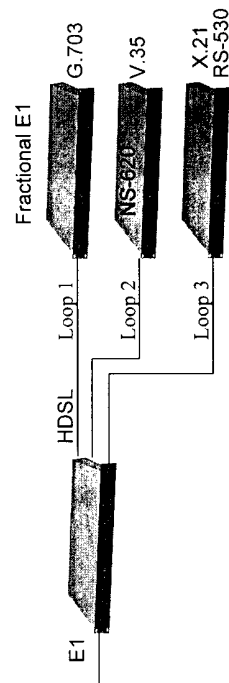

Figure 1-1. Point-to-Multipoint Fractional E1 application
- Table 1-8 is an application of point-to-multipoint (similar to Fig.1-1), which is useful for Fractional-E1 data transmission over NS-620 base units. CO site offers 2Mbps data stream into G.703, V.35 and RS-530 interface of NS-620 base unit then connect with three RT sites by each one loop pair(NS-620 base unit).